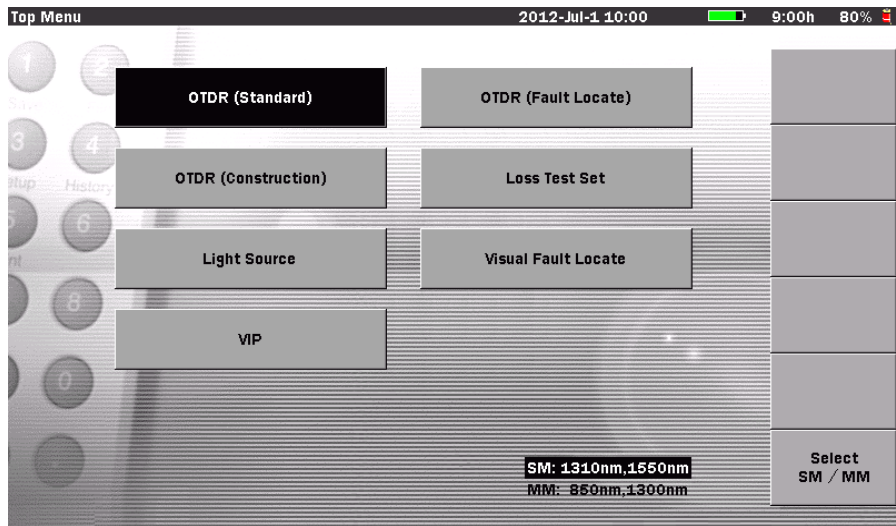

Figure 3-1: Initial Screen – Top Menu
If the screen shown in Figure 3-1 does not appear after powering up, the MT9083 Series may have failed. Run the unit through a power cycle (power
- Press the **Power key** . The MT9083 Series performs a self-test during which the Anritsu splash screen, followed by the MT9083 Series splash screen, briefly appears. When the self-test is completed, the Top Menu screen, or one of the Test Application screens (if the unit was powered down via the Auto Power Off function), appears (see Figure 3-1 on page 3-1).